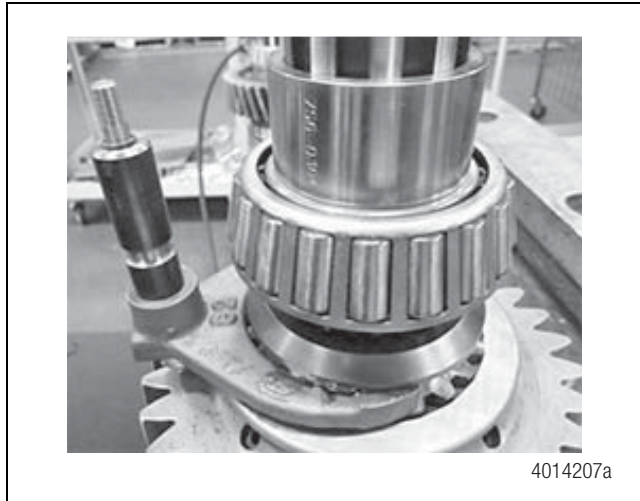

Figure 6.18
9. Place an O-ring on the 3/8 threaded side of the shifter-shaft and attach the shift-fork assembly onto the clutch collar. Figure 6.18.